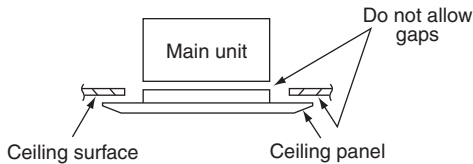

Fig. 7-20
- (4) Check that the panel is attached tightly to the ceiling.
- At this time, make sure that there are no gaps between the unit and the ceiling panel, or between the ceiling panel and the ceiling surface. (Fig. 7-20)